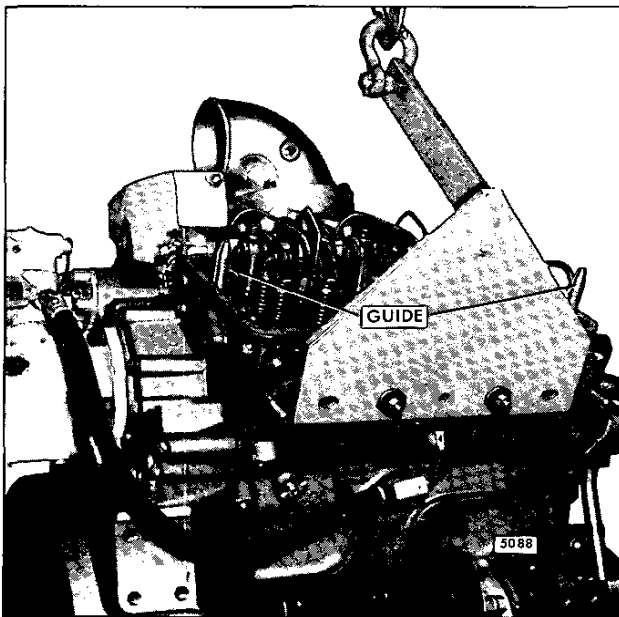

Fig. 2 – Lifting or Installing Cylinder Head with Tool J 22062-01
11. Check the torque on the cylinder head bolts before removing the head. Then, remove the bolts and lift the cylinder head from the cylinder block using tool J 22062-01 (Fig. 2). Checking the torque before removing the head bolts and examining the condition of the compression gaskets and seals after the head is removed may reveal the causes of any cylinder head problems.